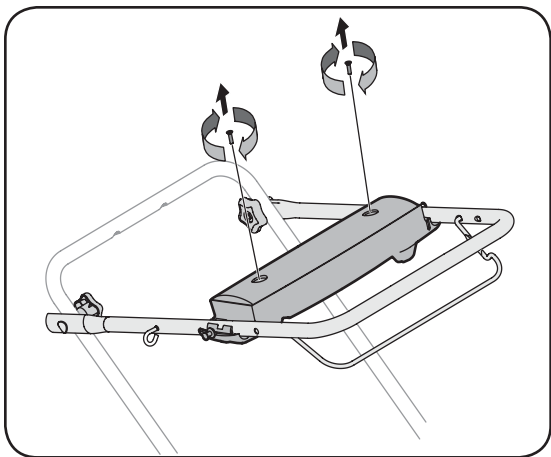

Figure 5-5
- b. Once belt is off transmission pulley, push down on deck baffle to access engine pulley and slide belt off this pulley and out from under the deck. See Figure 5-5.
1. Loosen round handle knobs securing upper and lower handles and carefully fold the upper handle down toward the lower handle as shown in Figure 5-5.
2. Remove the two screws securing battery cover to battery housing and place them to the side. See Figure 5-5.
1. Open the battery cover as described in **Replacing Battery**. Refer to Figure 5-5.